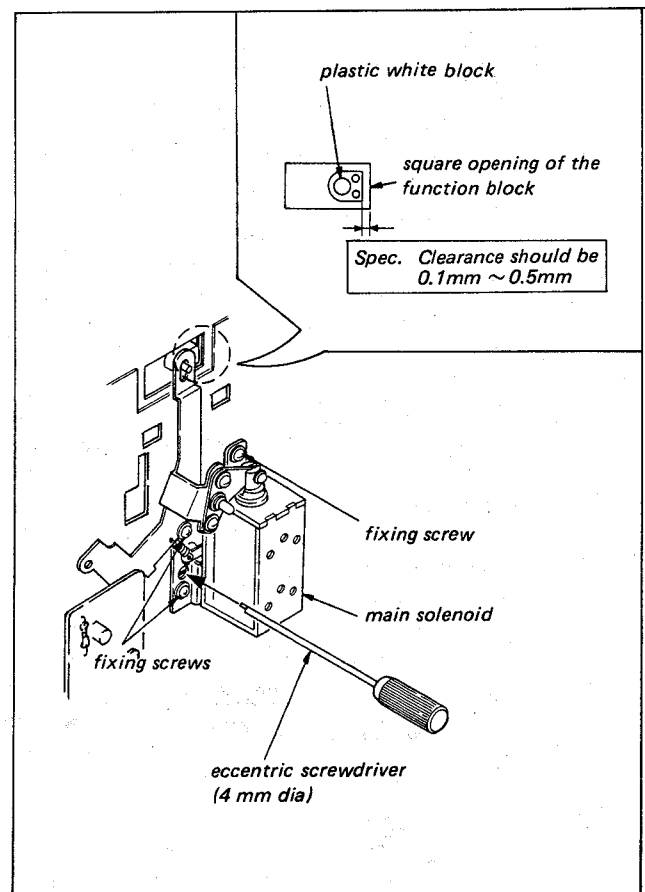

Fig. 4-6. Main solenoid adjustment (FF mode without tape)
- If the Main Solenoid position happens to be incorrect in such a condition that the solenoid's iron core travelling stroke is short (i.e. the clearance between the white plastic piece and the square opening of the Function Block, as shown in Fig. 4-6.), possible trouble is that the machine's mechanism links are not moved to the required position in respective modes of FWD, FF, REW and EJECT, and that the normal tape run cannot be expected.
2. While the machine is put into the FF mode, locate the main solenoid, observe the clearance between the square opening of the function block and the plastic white block, as shown in Fig. 4-6.